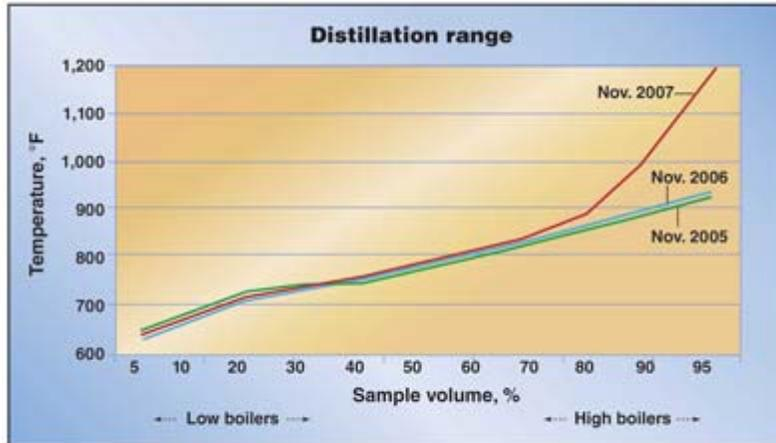

FIGURE 3. The second annual test (Nov. 2007) shows why periodic testing is important; contamination or oxidation resulted in a dramatic increase in high boilers
- Distillation-range tests measure the boiling profile of the fluid. If the brand of fluid is known, the test results can be compared to the new-fluid specifications and will accurately determine whether the fluid has been contaminated (Figure 3).